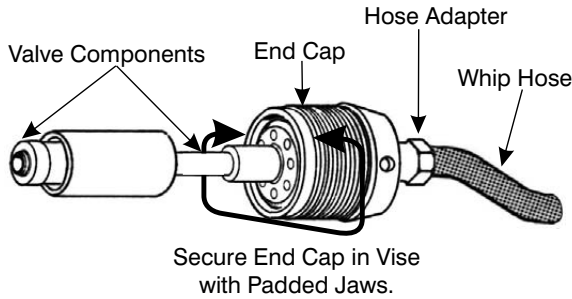

Figure 8-12. Secure End Cap in Vice or Saddle Clamp
1. With the End Cap (10) secured to prevent rolling, detach the Whip Hose (14) from the Hose Adapter (15). Refer to Figure 8-12.